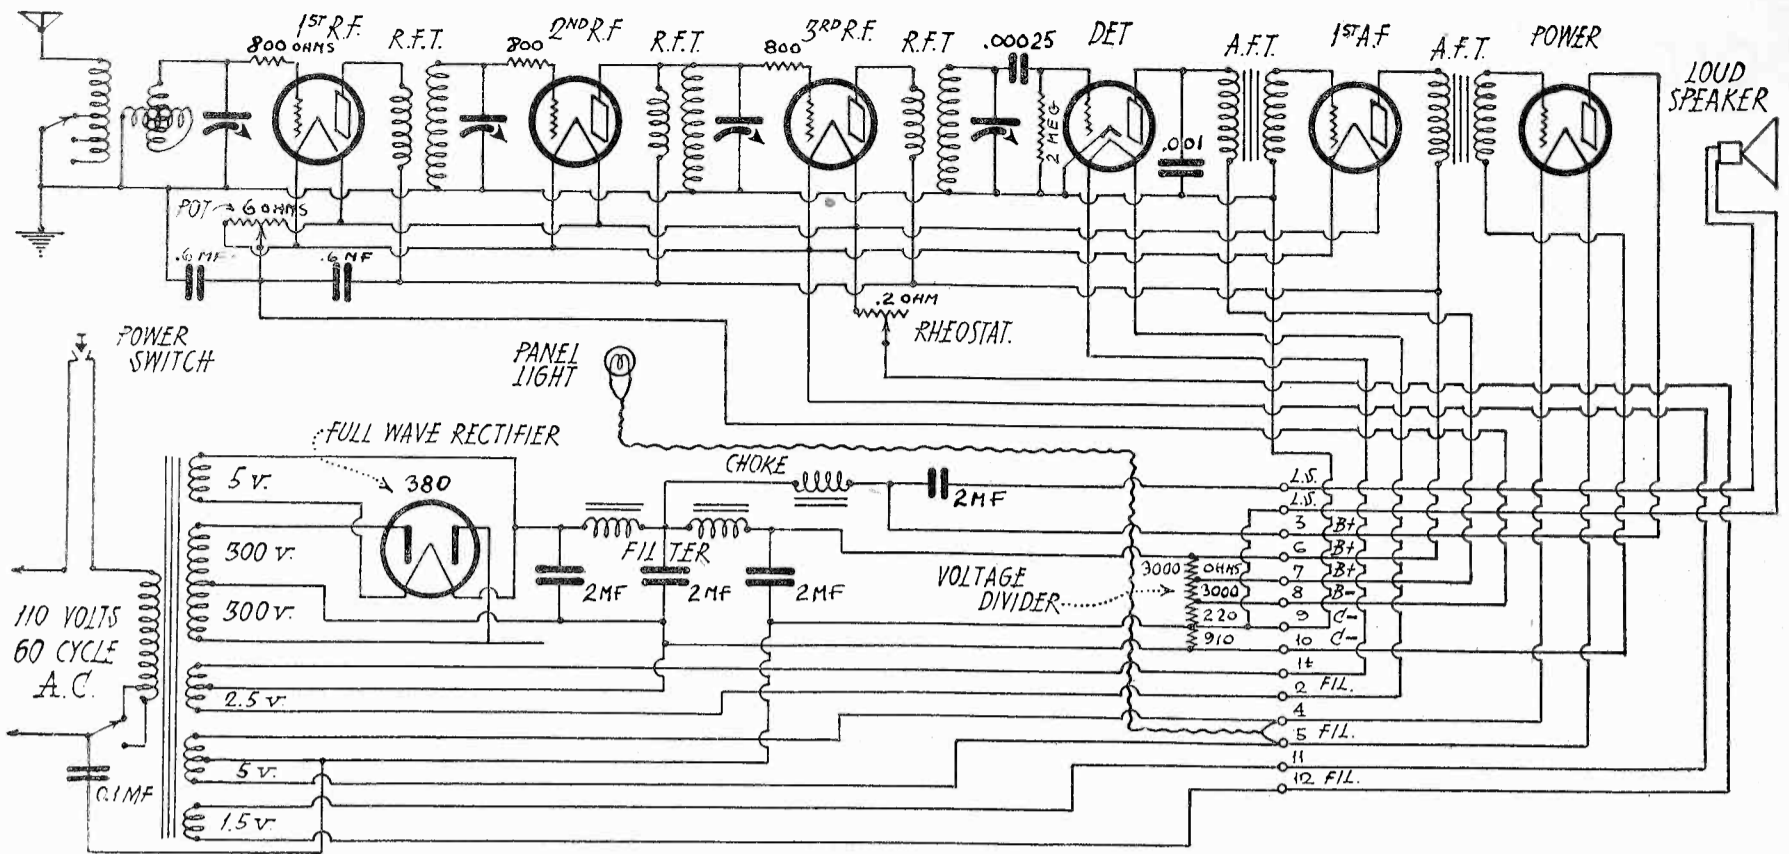

Fig. 3. Diagram of Kolster A.C. Receiver.
**A**NOTHER type of six tube set is illustrated in the diagram of the Kolster, shown in Fig. 3. This receiver is somewhat the same in circuit as the Radiola 17 although differing in mechanical design. It employs variable filament balancing resistances for adjusting the degree of a.c. hum to a minimum. If the grid return lead of any tube having its filament operated from a.c. is connected directly to one side of the filament, the fluctuations in voltage due to the use of a.c. cause a fluctuation in grid voltage which introduces an enormous amount of a.c. hum into the plate circuit. Hence the exact electrical center of the filament circuit must be selected by means of a resistance which is either accurately tapped at the center, or in which the center can be found by varying the slider of a resistance having a sliding contact arm. Individual tubes may require a variation of 5 per cent